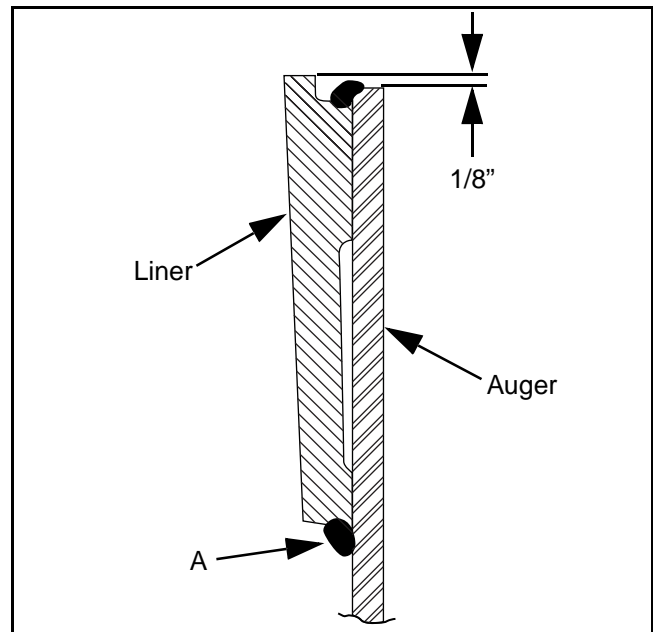

Figure 6 - 75 Liner cross-section
- 5) Make welds at each of the two pockets "B". (Figure 6 - 76)